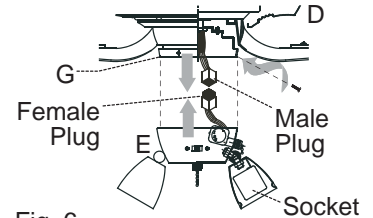

Fig. 6
6. Remove three screws from outer edge of switch housing plate (G). Connect male plug from motor housing (D) to female plug from light kit fitter (E). Make sure that they are securely connected. Attach light kit fitter (E) to switch housing plate (G) with the three screws that were removed. [Fig. 6]